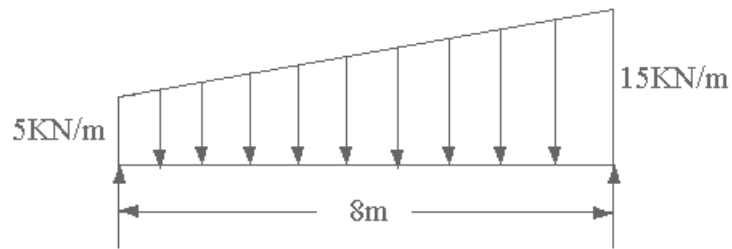

Figure 6
- Obtain the S.F.D. & B. M d and find the maximum values for the beam loaded as shown in Figure 6. [16]